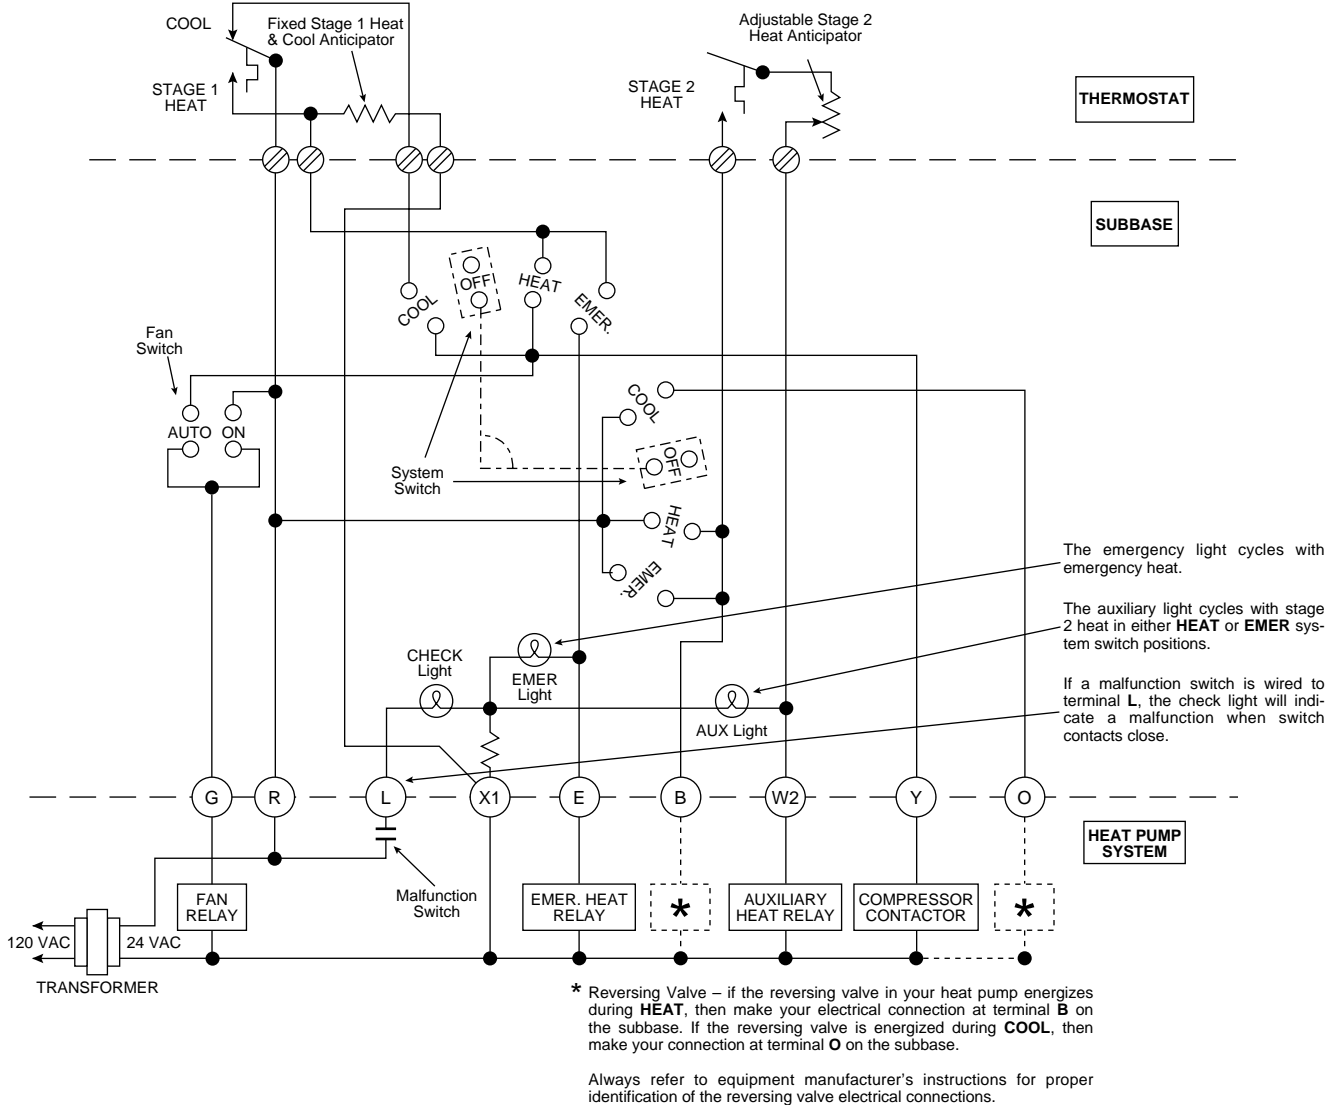

Figure 2. Typical wiring diagram
1. Pull wires through opening near center of subbase and connect wires under terminal screws (see figs. 2 & 3).
□ See fig. 2 (fan caution)